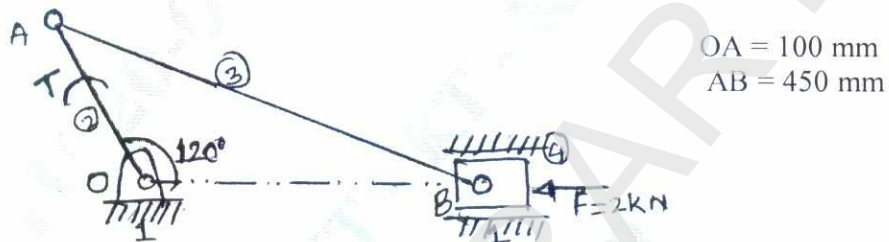

Fig.Q1(b)
- b. A slider crank mechanism with the following dimensions is acted upon by a force, $F = 2 \text{ kN}$ at B as shown in Fig.Q1(b). Determine the input torque 'T' on the link OA for the static equilibrium of the mechanism.